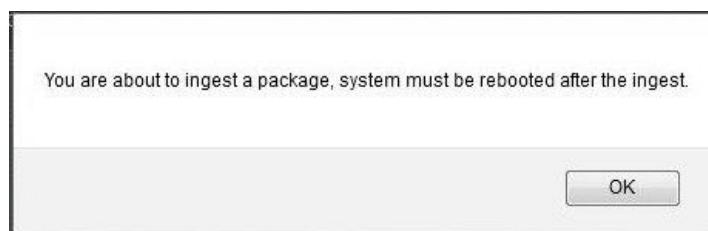

Figure 342: Reboot Notification
- Click OK in the pop up window to acknowledge that the system must be rebooted (Figure 342).